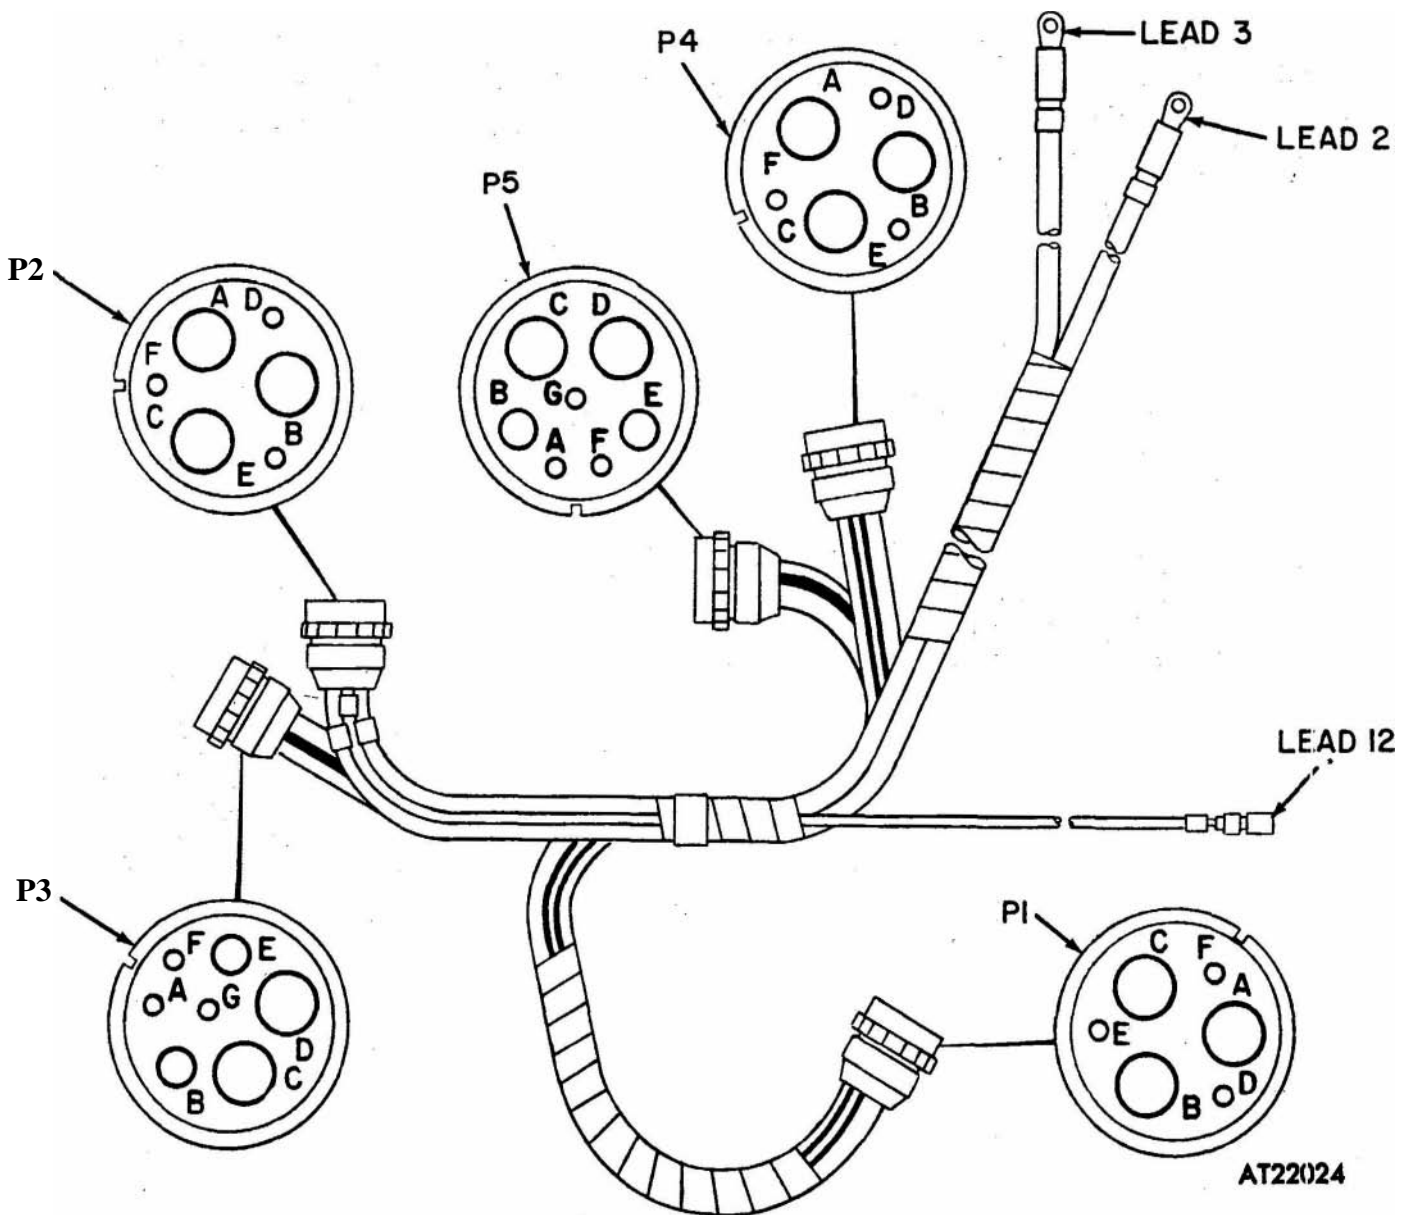

Figure 3-3. Harness assembly, 100 ampere alternator kit.
d. Harness Assembly. The harness assembly (fig 3-3) is shaped and laced so as to be readily connected to the components of the 100 ampere alternator kit without further reshaping. Before installation, security of the lacing and condition of the connectors must be checked.